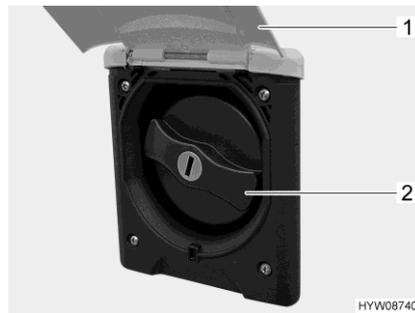

Fig. 140 Cap (drinking water filler neck)
- Swivel the external flap (Fig. 140,1) upwards.
- Turn the blue cap (Fig. 140,2) one quarter turn.